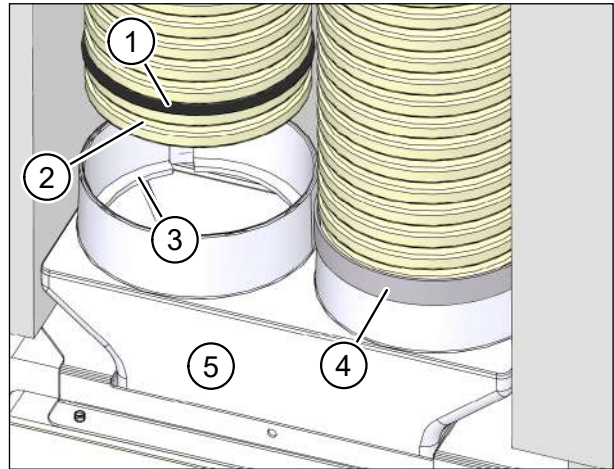

Fig. 28: Fixing a flexible pipe connection with sealing tape
- ▶ Insert the sealing rings (item 1 in Fig. 28) into the second groove on the flexible pipe. These are available as accessories M-WRG-FR-DR75 (part no. 5056-41/75).
- ▶ Insert the flexible pipes into the openings in the flexible pipe connection. Make sure that the first groove on the flexible pipe (item 2 in Fig. 28) engages with the locking ring (item 3 in Fig. 28) on the flexible pipe connection.
- ▶ Recommendation: Seal the joint with a layer of sealing tape 30 mm wide (item 4 in Fig. 28).
- ▶ Insert the flexible pipe connection (item 5 in Fig. 28) into the opening in the wall box.